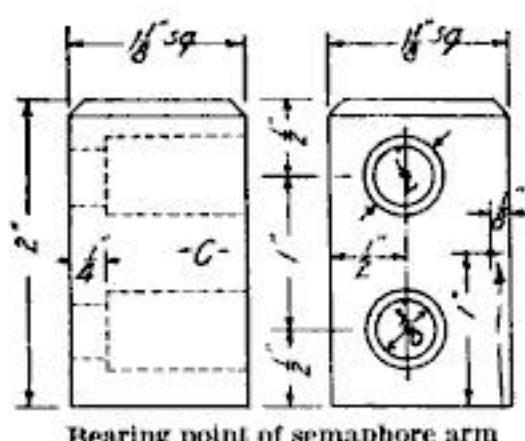

Fig. 4. Diagram showing construction of lamp
The lamp (C), Fig. 4, is made of hard wood,  $1\frac{1}{8}$ " square, into which holes are bored as shown in the figure. Small  $3\frac{1}{2}$  volt flashlight lamps fitted into miniature sockets are put into the  $\frac{1}{2}$ " hole as far as they will go. The end is then filled with putty so that it is lightproof. The  $\frac{3}{8}$ " holes are covered with tissue paper, the top with white and the bottom with red. The lights may be connected in multiple or series, depending on the voltage of the current. If small telephone switchboard lights and the opals which fit into the switchboard sockets can be procured the holes may be bored smaller and a much neater effect secured.